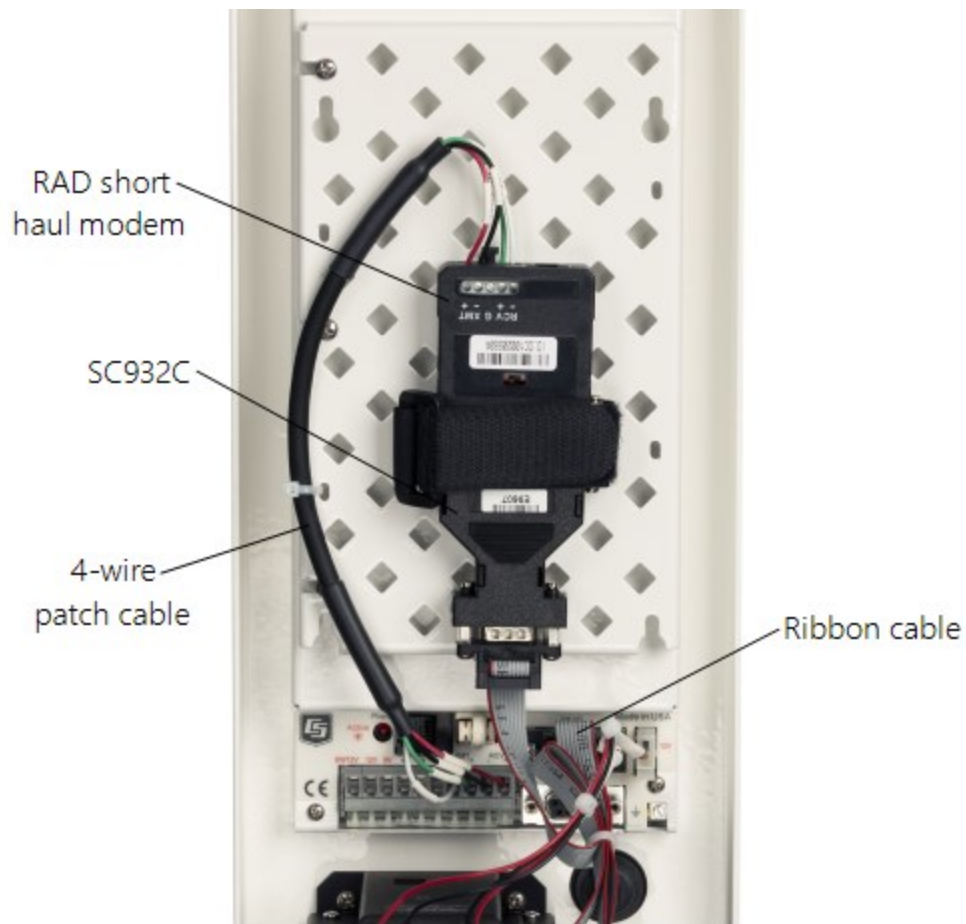
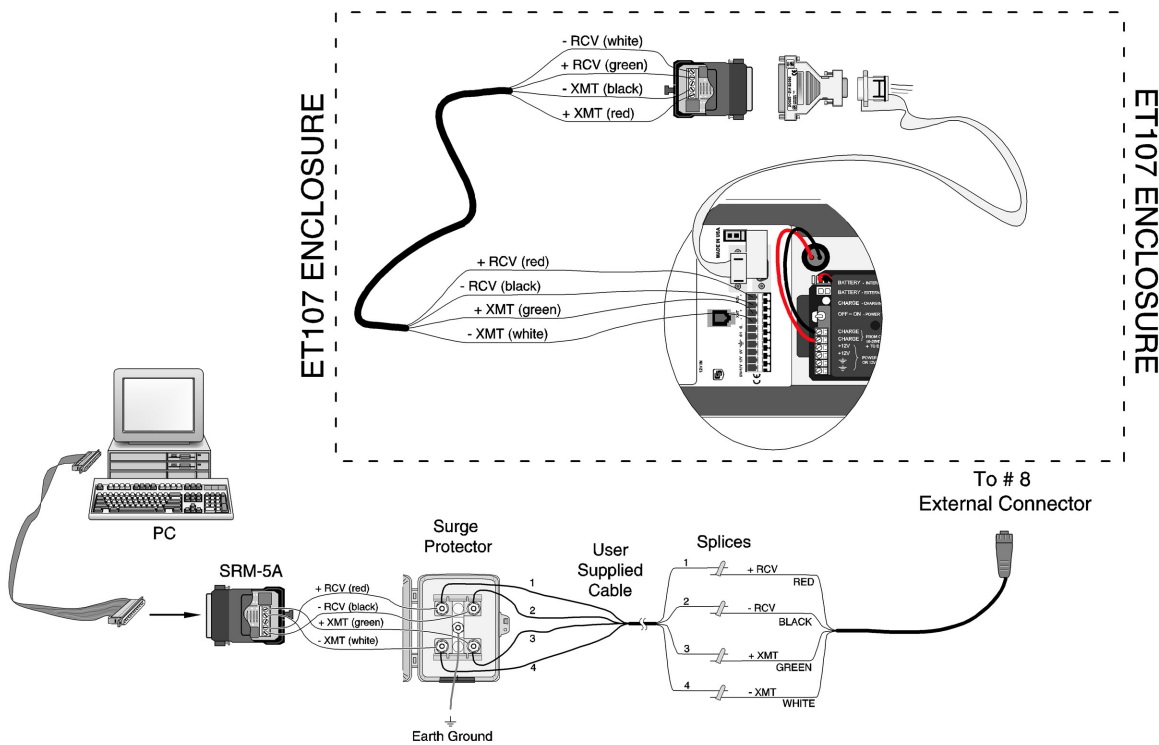

FIGURE 6-24. Short-haul modem mounting and connection (battery not shown)
FIGURE 6-25. Short-haul modem wiring diagram
Use the following procedure to install the short-haul modems (FIGURE 6-24 (p. 39) and FIGURE 6-25 (p. 40)).
4. Connect the SC932C 9-pin port to the internal enclosure CS I/O port with the ribbon cable supplied with the enclosure (FIGURE 6-24 (p. 39)).
Use the following procedure to install the short haul modems (FIGURE 6-25 (p. 40)).